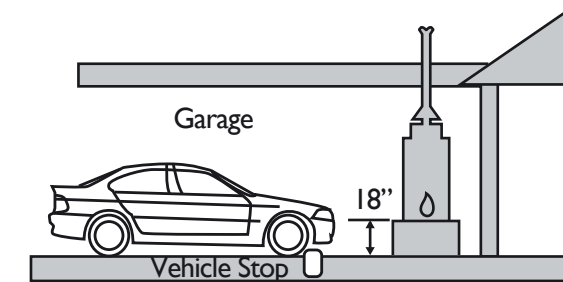

Figure 3
- Installation of a water heater in a garage, unless the unit is installed so that the burner and ignition devices are at least eighteen (18) inches above floor level and protected to avoid damage by moving vehicle. See Figure 3.